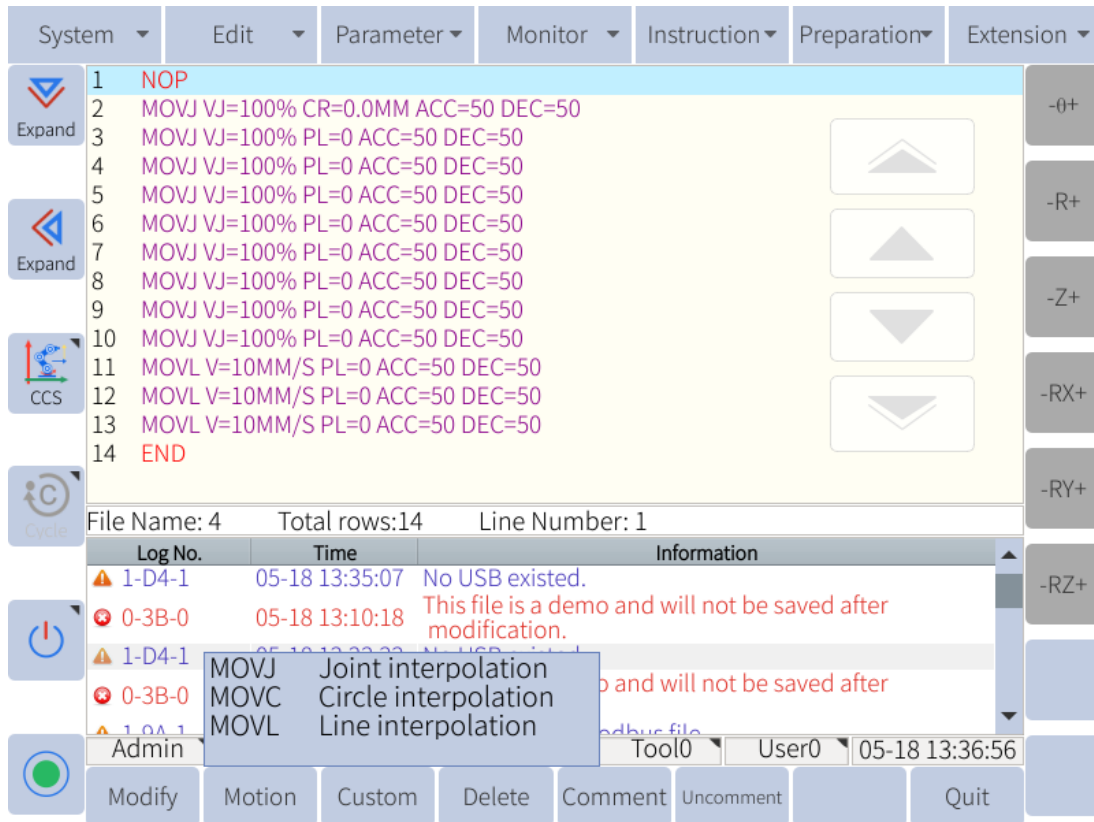

Figure 6-37 : Selecting the move instruction
4. Click "Motion" in the submenu bar, as shown in **Figure 6-37** , or select **Instruction -> Move-Instruction**, and select the desire move method on the drop down menu.